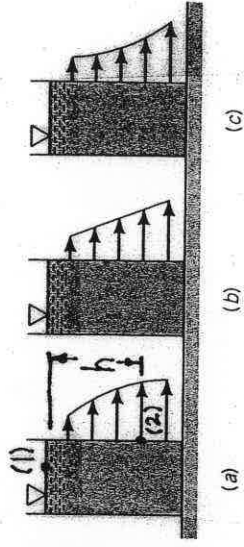

FIGURE P3.2.7
3.27 Several holes are punched into a tin can as shown in Fig. P3.2.7 (See Video V3.7). Which of the figures represents the variation of the water velocity as it leaves the holes? Justify your choice.